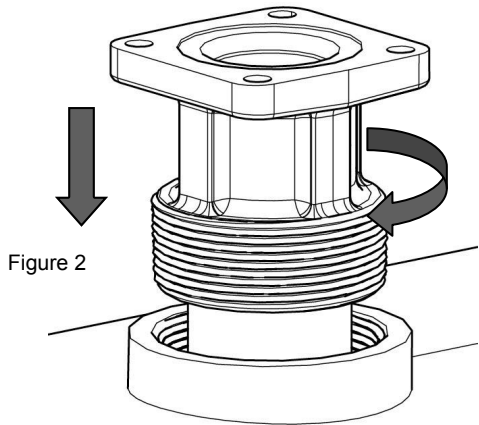

Figure 2
2. Screw the inlet flange (with suction pipe) into the tank bung; seal threads liquid tight with appropriate thread sealant (Figure 2).